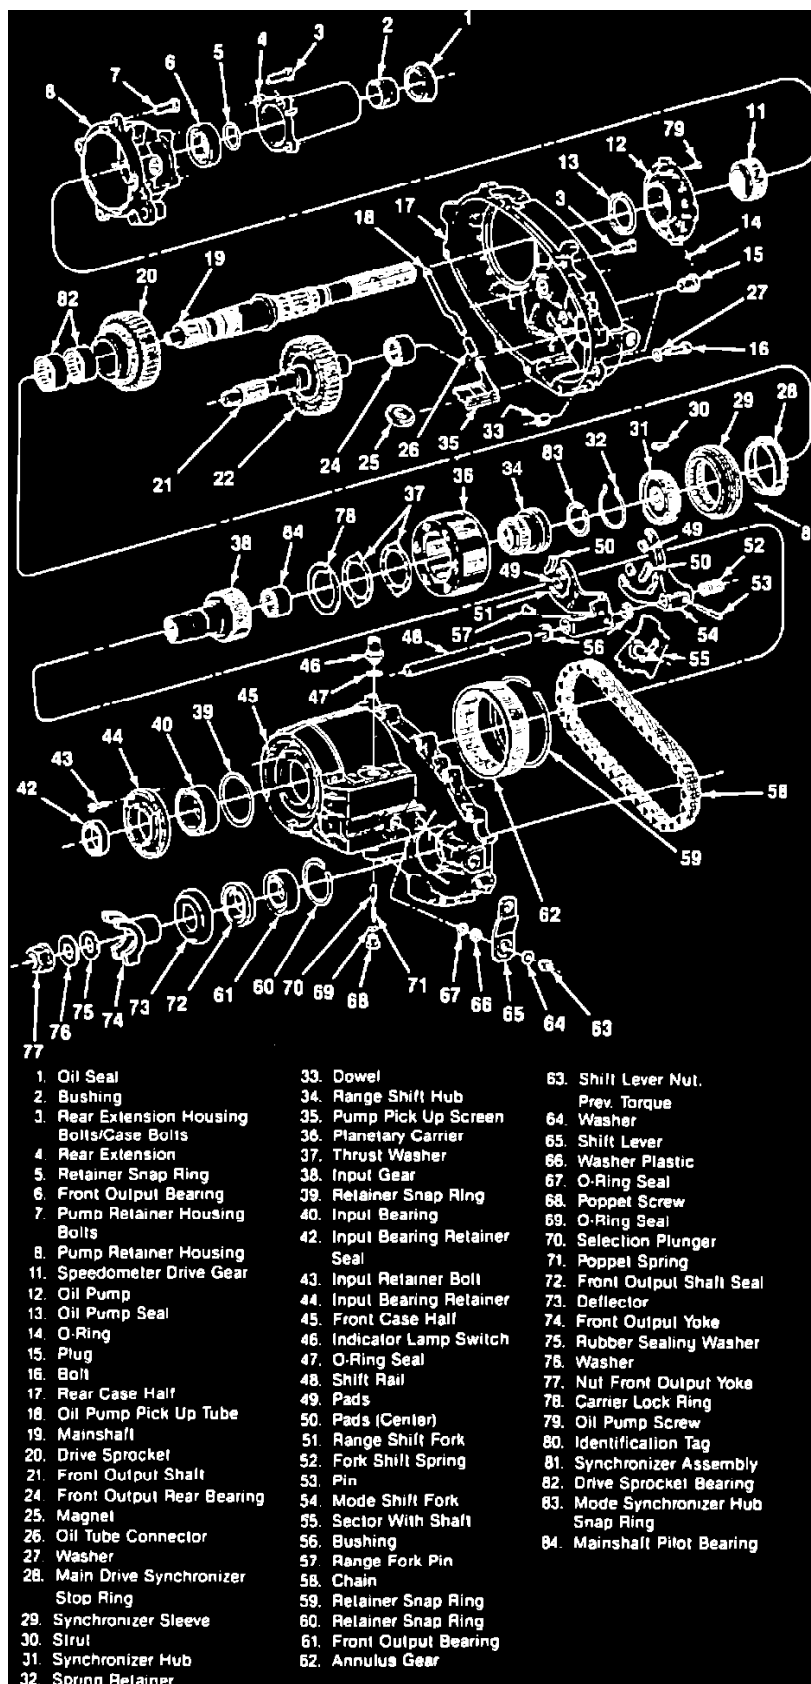

Fig. 19 Transfer Case Exploded View. New Process Models 231, 233 & 241 Transfer Cases
17. Install input bearing retainer bolts (43), Fig. 19 and input bearing retainer to front case half. Apply RTV or equivalent to bearing retainer mating surfaces. Apply Loctite 242 or equivalent to bearing retainer bolt threads. **Torque bolts to 14 ft. lbs.**